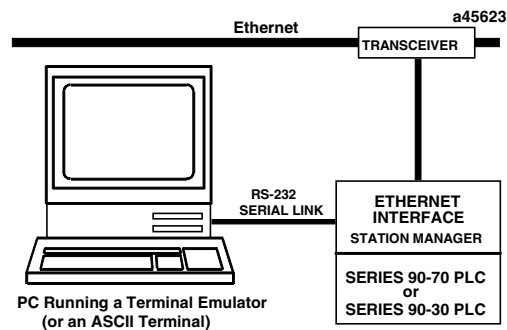

Figure 2-1. Station Manager Accessed Locally through the Station Manager Port
1. **Through the Station Manager serial port on the Ethernet Interface** by a PC running a terminal emulator (typically Hyperterm) or by an ASCII terminal. See Figure 2-1.